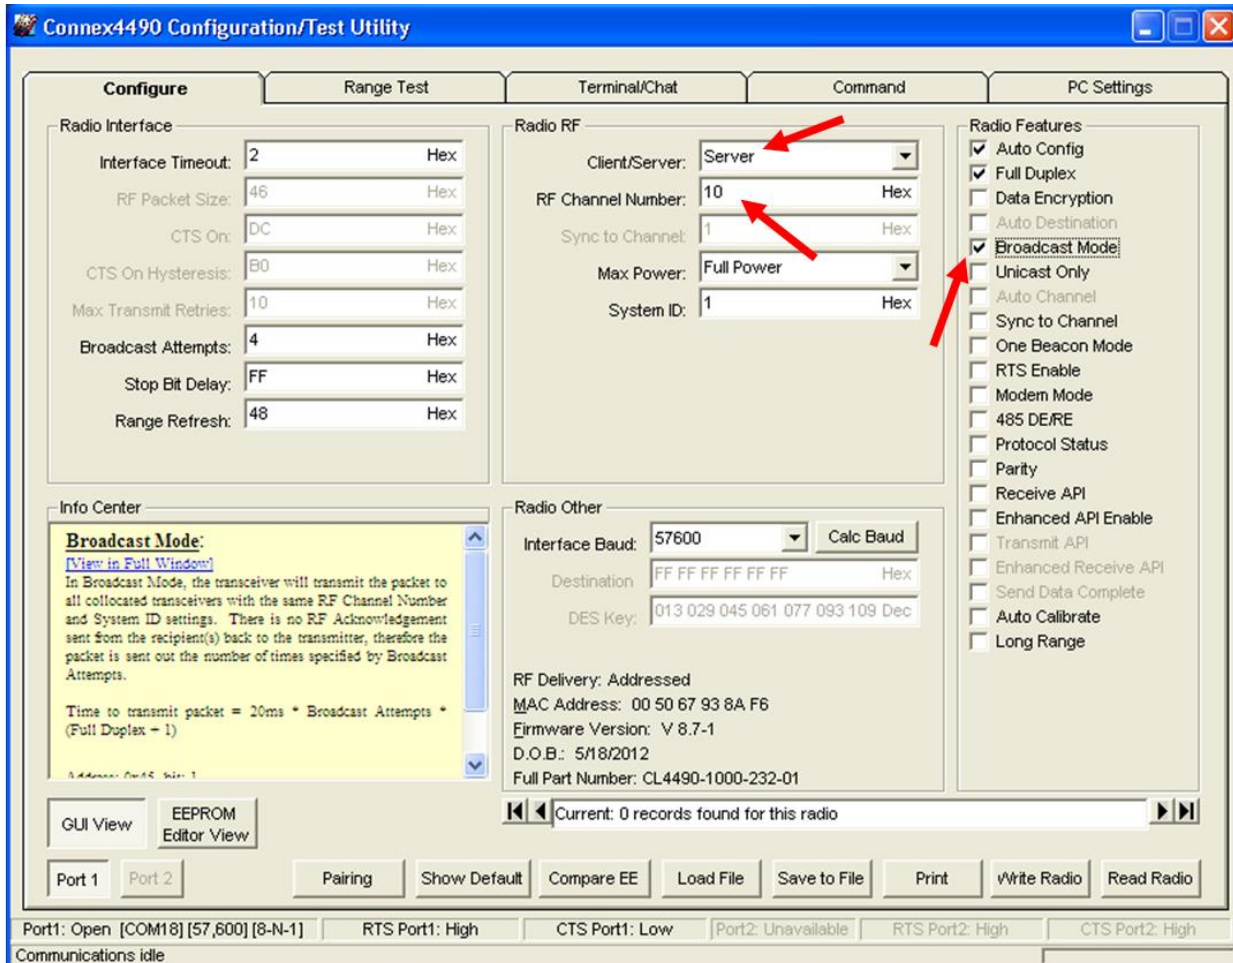

Figure 11: Hop Master settings
- To configure the Hop Master, select **Server** and **Broadcast Mode**. Make note of the RF Channel Number (Figure 11). Once the appropriate changes have been made, click **Write Radio**. A Write Successful prompt appears after a successful write. Note that the values are shown using hexadecimal representation; you may change this to decimal notation by double-clicking on the word “Hex” (it changes to “Dec”).